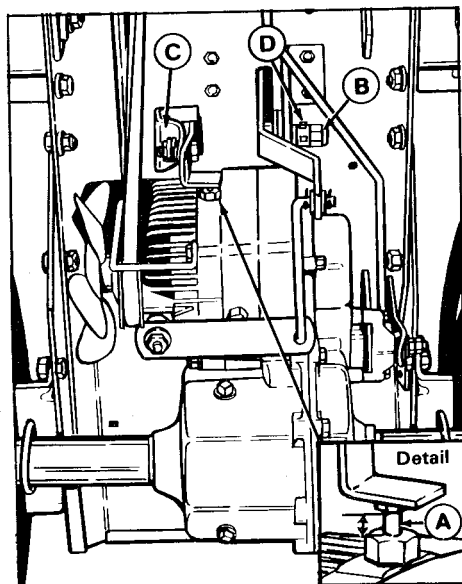

Figure 30. Engagement Lever
If lever (H, figure 8) operates too hard or loose, it can be adjusted. Loosen or tighten the nut (B, figure 30) to loosen or tighten the lever. Some models are equipped with set-screws (D) which must be loosened to adjust the nut.
4. Locate the plunger (A, figure 30) on front of the transmission which is operated by the lever. Check the clearance between the plunger and the fitting as shown in the detail in figure 30, it should be 0.060 inch to 0.125 inch.
5. To adjust, loosen the screws which secure the engagement lever support bracket (C, figure 30) and move bracket to achieve the 0.060 to 0.125 inch dimension, then tighten the screws.